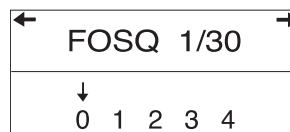

FIGURE 4–8 FOSQ SCREEN 1 OF 30
2. From the Standby screen, press the – button to first FOSQ screen, shown in Figure 4–8.